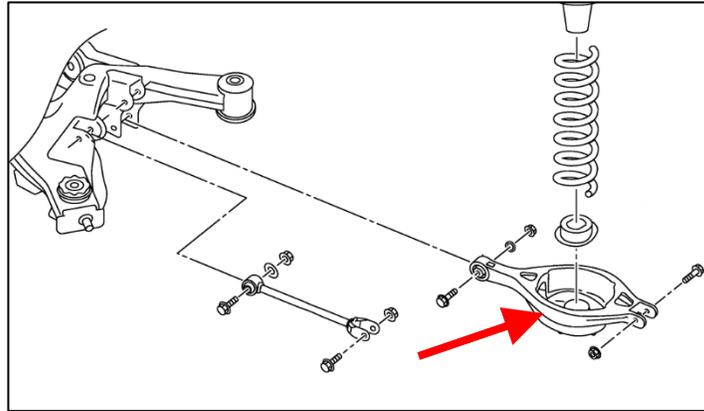

Figure 9
5. Place the jack under the Toe Arm to support the Control Arm and Coil Spring. Shown below in *Figure 9*.